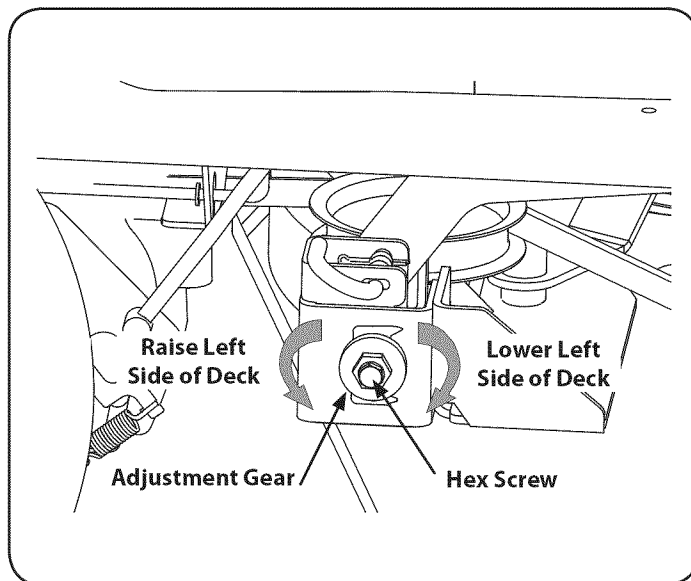

Figure 33
5. Loosen, but do not remove, the hex screw on the left deck hanger bracket. Refer to Figure 33.